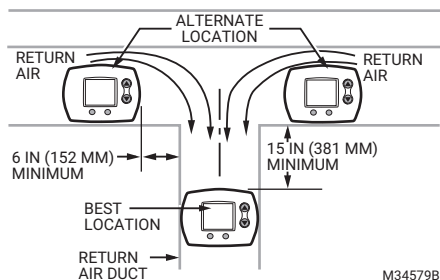

Fig. 2. Selecting duct location for humidistat.
- For return duct mounting, the humidistat should be mounted upstream from the humidifier or bypass so that it is properly sensing the relative humidity of the living space. Locate the control at least 8 in. (203 mm) upstream from the humidifier in the return air duct. (See Fig. 2.)